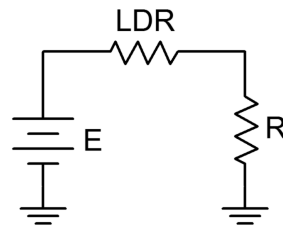

Figure 1
4. Construct the circuit of Figure 1 using $E=10$ volts and $R=10\text{ k}\Omega$. Using the voltage divider rule, determine the expected value for the voltage across R under normal lighting and then measure the voltage. Record these values in Table 2.